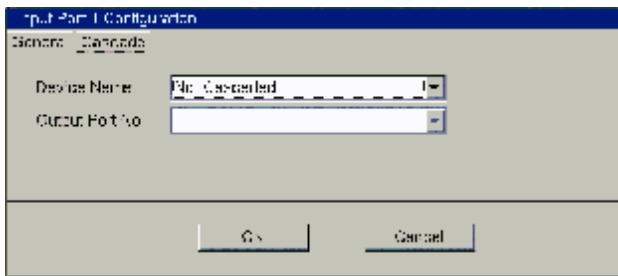

Figure 33 Cascade tab
3. Tick the Cascade box and click the Cascade tab. Figure 33 appears.